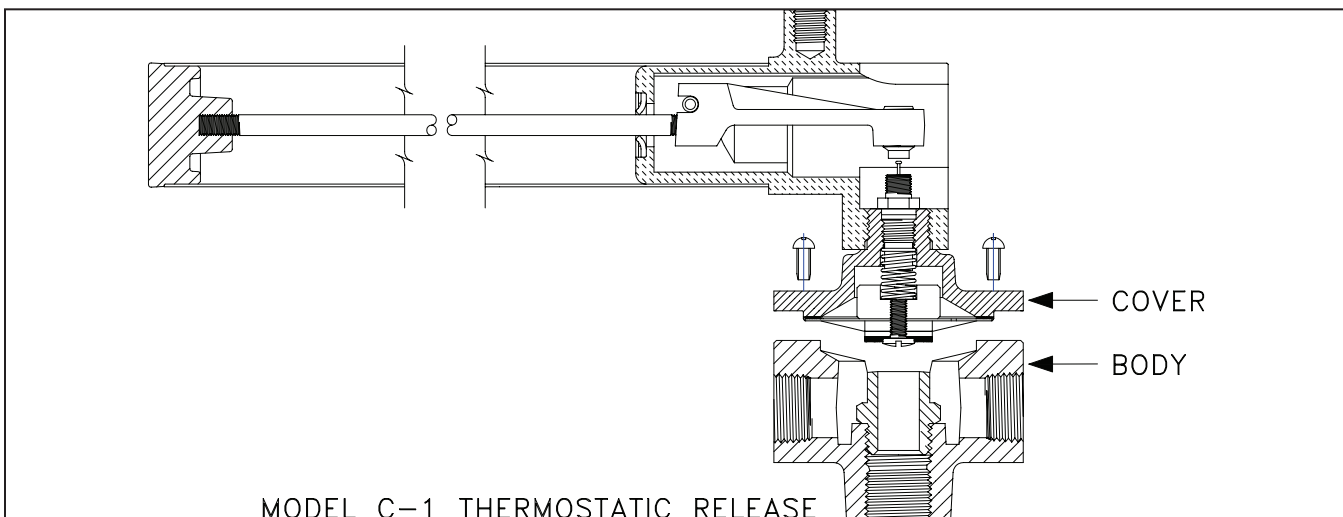

Figure 40
3. Using a screw driver, remove six screws. Body will separate from cover (Figure 40).